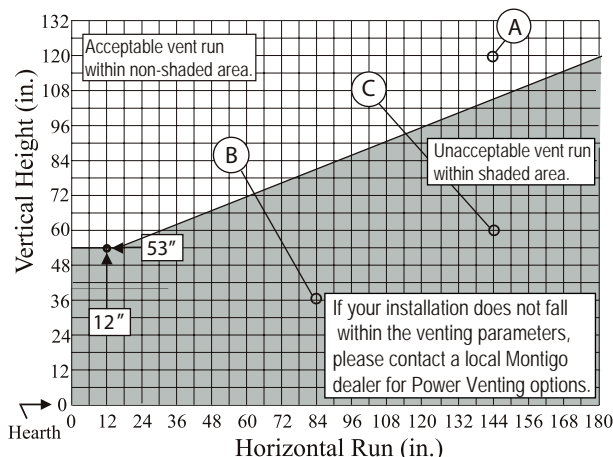

Figure 12. P42DF* LP Top Vent Venting Graph for wall mounted terminations.
- Once the proposed venting layout has been determined refer to Figure 12, 12a, or 14 to ensure the layout is acceptable.
- Venting runs must fall within the limits set by the venting graph, see Figure 12 or 13
Measure the vertical height from the fireplace hearth to the centre of the termination and the horizontal run from the fireplace flue collar to the wall flange of the termination. Plot on the Venting Graph Figure 12 or 13 with an 'X'.
Figure 13. Top Vented, wall mounted installation with one 90° bend. The vent run must comply with Venting Graph for Top vent, wall mounted terminations, Figure 12 or 12a.
Figure 13a. Top Vented, wall mounted Multi-elbow installation. The vent run must comply with Venting Graph for Top vent, wall mounted terminations, Figure 12 or 12a.